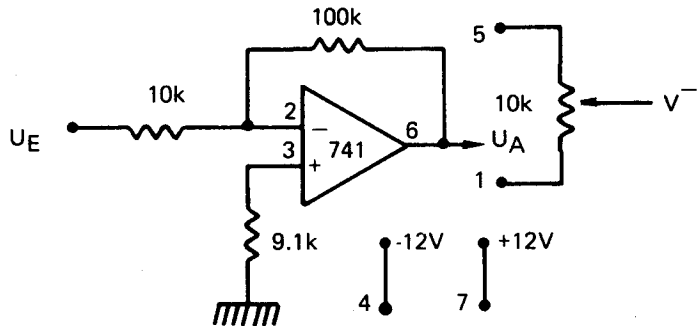

Figure A-3: Inverting Amplifier.
Figure A-3 shows an inverting amplifier with a gain of ten. The voltage U_2 in equation (7) is zero.